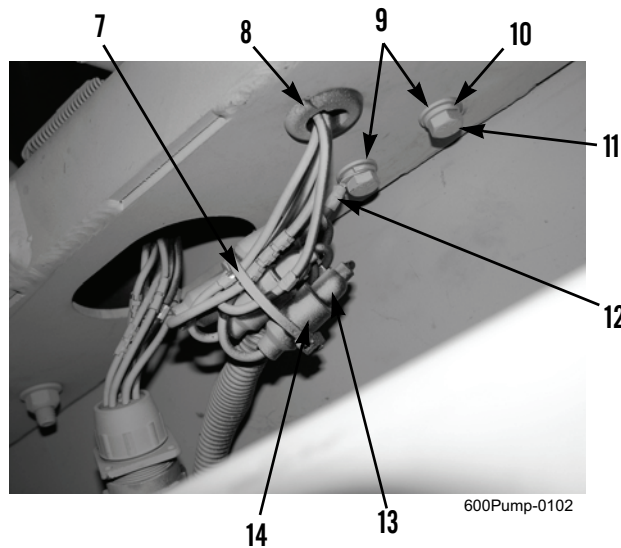
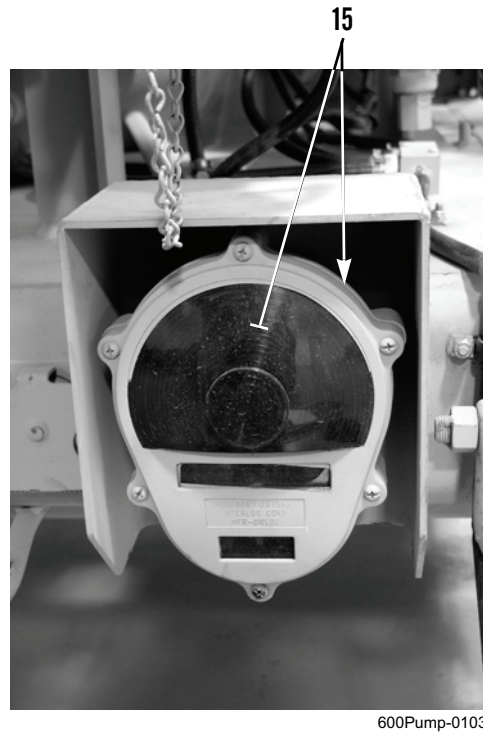

Figure 5. Taillight Connectors.
Figure 6. Taillight.
1. Cut tiedown strap (Figure 5, Item 7) from taillight connectors (Figure 5, Item 13) and trailer wiring harness connectors (Figure 5, Item 14). Discard tiedown strap.
2. Disconnect four trailer wiring harness connectors (Figure 5, Item 14) from taillight connectors (Figure 5, Item 13).
3. Remove two screws (Figure 5, Item 11), taillight ground wire (Figure 5, Item 12), two lockwashers (Figure 5, Item 10), and washers (Figure 5, Item 9) from rear of trailer. Discard lockwashers.
4. If required, remove grommet (Figure 5, Item 8) and remove taillight (Figure 6, Item 15) from rear of trailer.
1. Position taillight (Figure 6, Item 15) at rear of trailer, with taillight ground wire (Figure 5, Item 12) and taillight connectors (Figure 5, Item 13) fed through opening at rear of trailer. If removed, install grommet (Figure 5, Item 8).
2. Secure taillight (Figure 6, Item 15) and taillight ground wire (Figure 5, Item 12) to rear of trailer with two washers (Figure 5, Item 9), new lockwashers (Figure 5, Item 10), and screws (Figure 5, Item 11).
3. Connect four trailer wiring harness connectors (Figure 5, Item 14) to taillight connectors (Figure 5, Item 13).
4. Install new tiedown strap (Figure 5, Item 7) around four taillight connectors (Figure 5, Item 13) and trailer wiring harness connectors (Figure 5, Item 14).